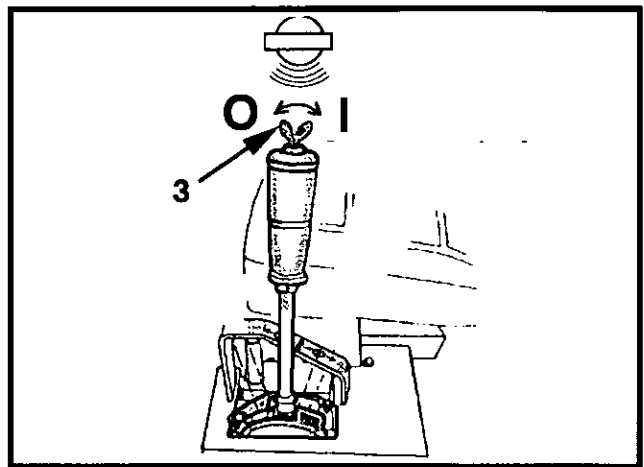

Figure 4-18 Vibration ON/OFF Control Switch
1. Vibration ON/OFF control (3, Figure 4-18).
1. Switch OFF vibration control switch (3, Figure 4-18).